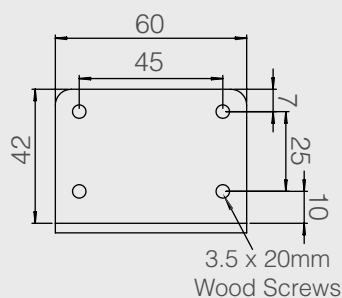

Fig 2
5. Attach the angle bracket to the underside of the desk using suitable fixings (**Fig 2**).